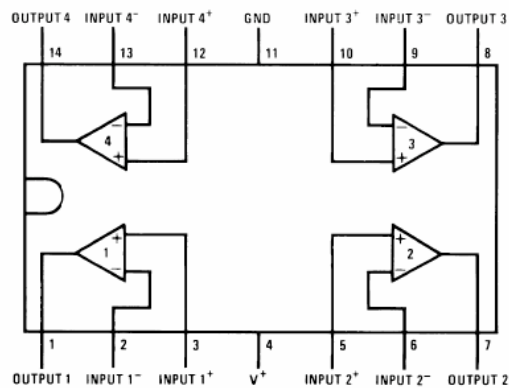
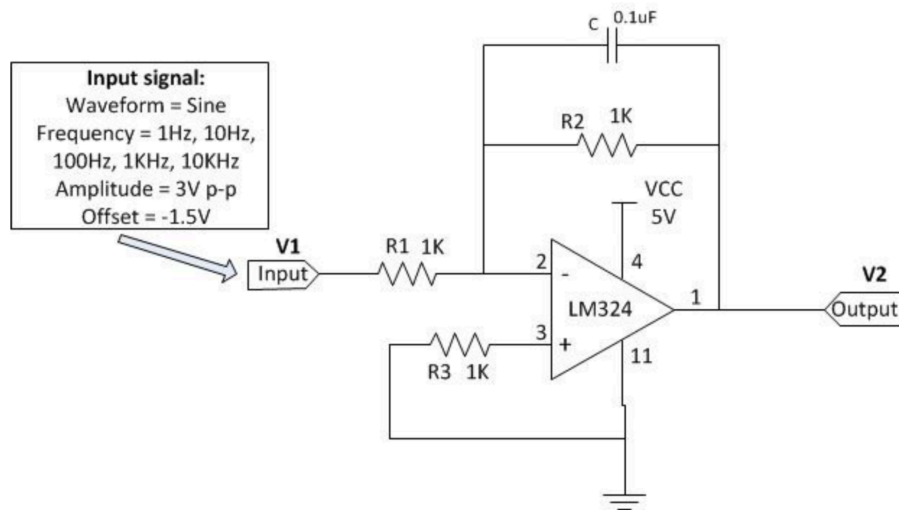
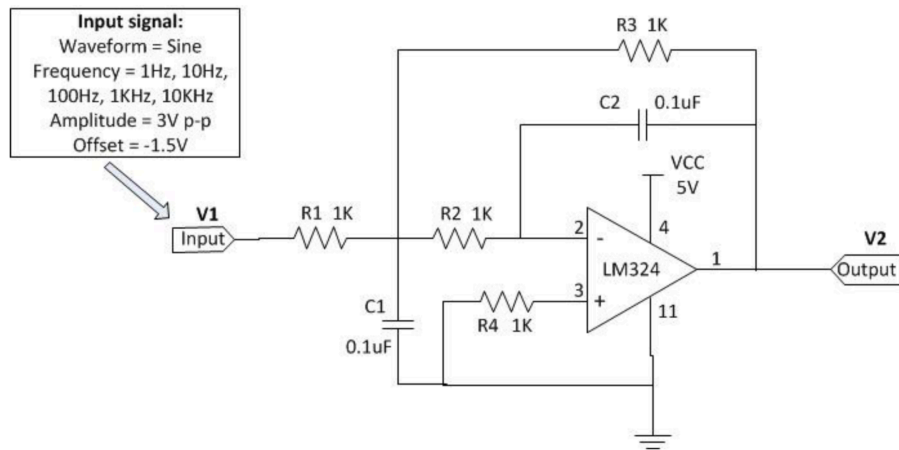
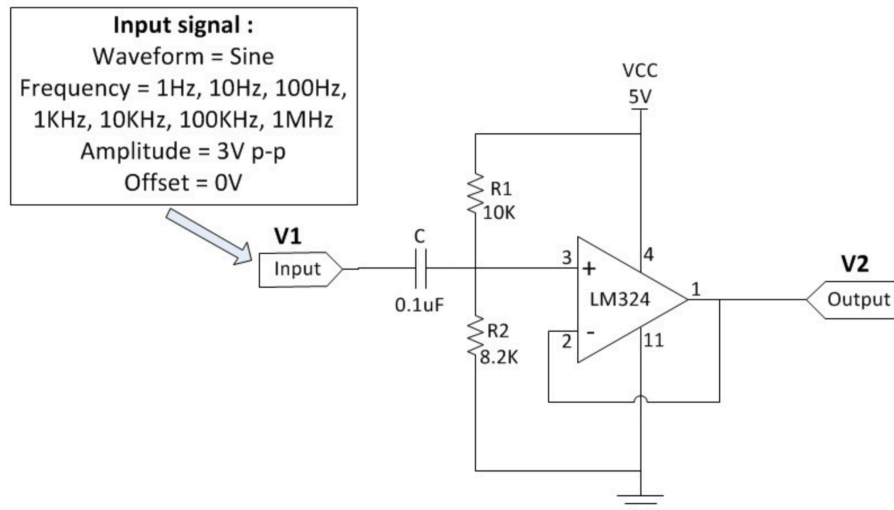

Figure 1: Pinout for the LM324.
Figure 2: Low pass filter.
Figure 3: Two-pole Low pass filter.
Figure 4: High pass filter.
- 1) Use pinout diagram for LM324 op amp IC shown in Figure 1 to construct the low pass filter circuit as shown in Figure 2.
- 4) Connect channel 1 input (X) of the oscilloscope to the output of low pass filter and connect channel 2 input (Y) of the oscilloscope to the input of low pass filter.
- 1) Use pinout diagram for LM324 op amp IC shown in Figure 1 to construct the two-pole low pass filter circuit as shown in Figure 3.
- 1) Use pinout diagram for LM324 op amp IC shown in Figure 1 to construct the high pass filter circuit as shown in Figure 4.
- 4) Connect channel 1 input (X) of the oscilloscope to the output of high pass filter and connect channel 2 input (Y) of the oscilloscope to the input of high pass filter.